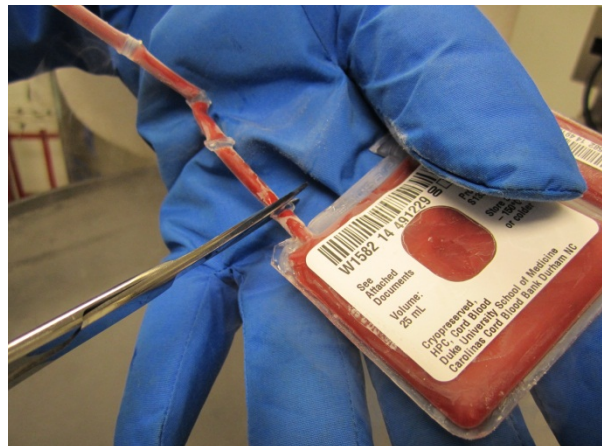

Figure 5b
- f. Cut the cryobag segments, if present (see Figure 5b).